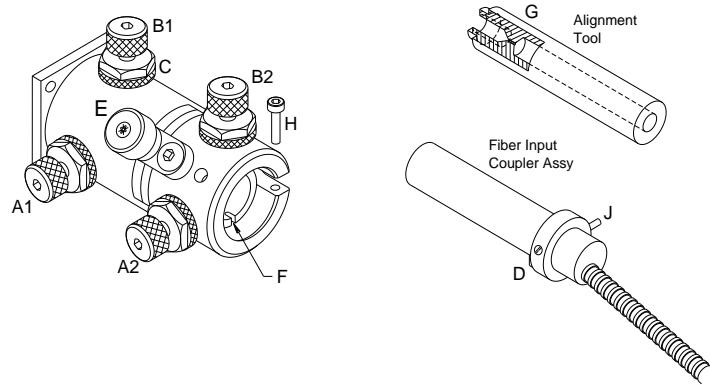

Figure 10-2: 3D exploded view of manipulator and fiber
1. Press locking mechanism **E** (see Figure 10-2) and insert alignment tool **G** with the pinhole (step) nearest to the laser. Release locking mechanism **E**.